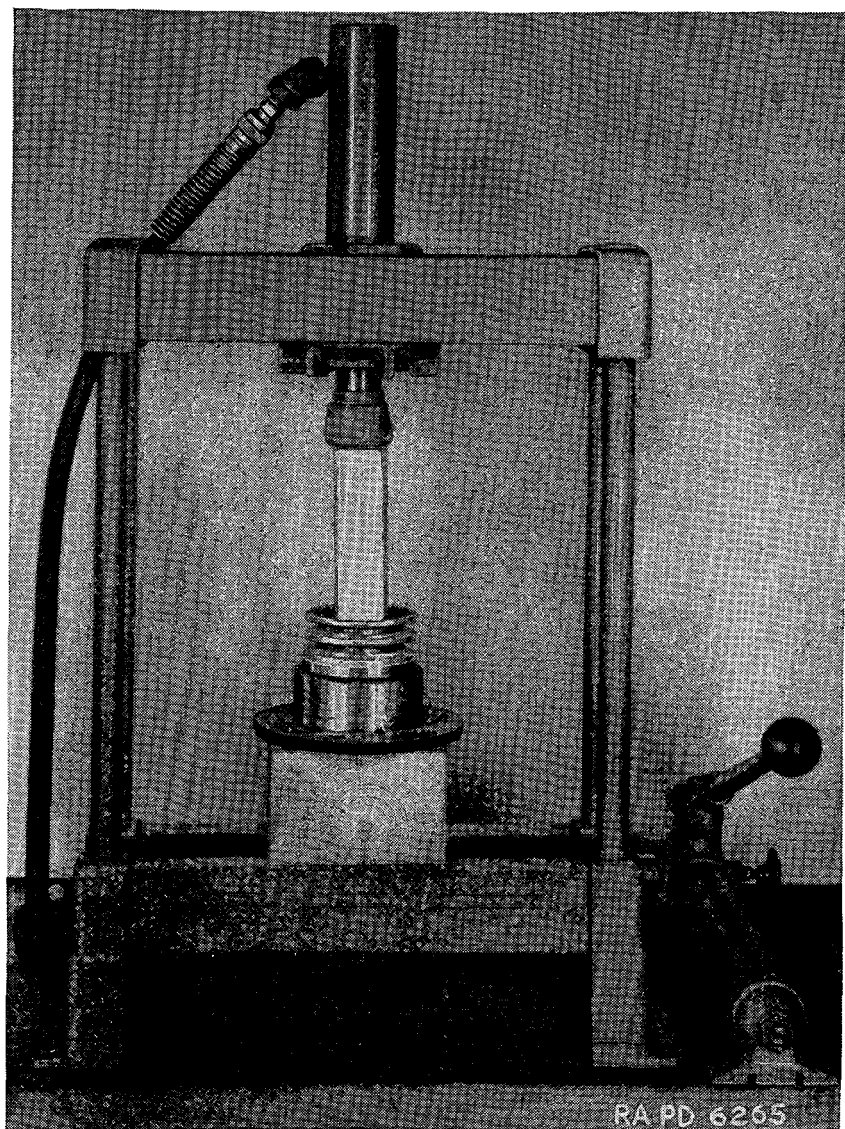

FIGURE 41.—Front axle drive pinion bearing cup replacement.
(3) Replace straight roller bearing—press, screw driver. Press bearing onto shaft and lock in position with locking ring.
(4) Reassemble bearing cage—press, wood block. Press inner and outer bearing cups into cage and set cage on shaft (fig. 41).